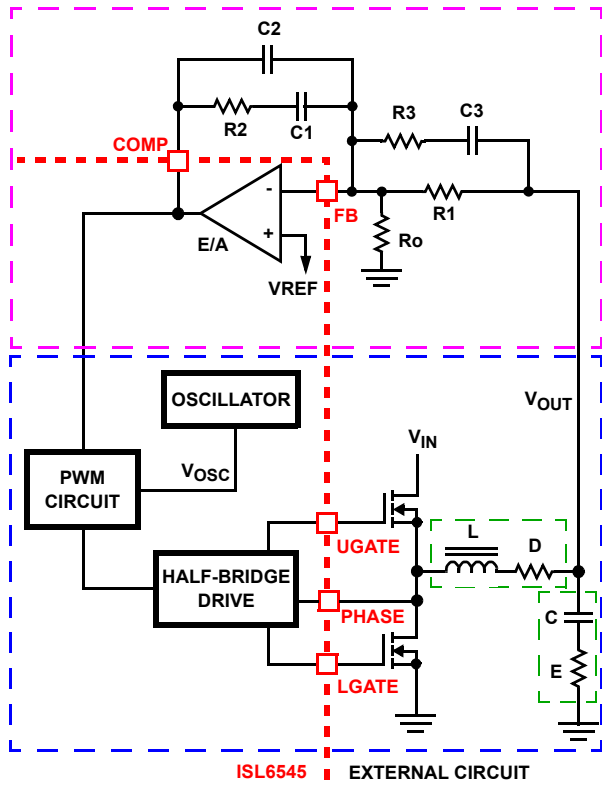

FIGURE 9. VOLTAGE-MODE BUCK CONVERTER COMPENSATION DESIGN
This section highlights the design consideration for a voltage-mode controller requiring external compensation. To address a broad range of applications, a type-3 feedback network is recommended, as shown in the top part of Figure 9.
Figure 9 also highlights the voltage-mode control loop for a synchronous-rectified buck converter, applicable to the ISL6545 circuit. The output voltage (V_{OUT}) is regulated to the reference voltage, V_{REF} . The error amplifier output (COMP pin voltage) is compared with the oscillator (OSC) modified sawtooth wave to provide a pulse-width modulated wave with an amplitude of V_{IN} at the PHASE node. The PWM wave is smoothed by the output filter (L and C). The output filter capacitor bank's equivalent series resistance is represented by the series resistor E.
The compensation network consists of the error amplifier (internal to the ISL6545) and the external R1-R3, C1-C3 components. The goal of the compensation network is to provide a closed loop transfer function with high 0dB crossing frequency (F_0 ; typically 0.1 to 0.3 of F_{SW}) and adequate phase margin (better than 45°). Phase margin is the difference between the closed loop phase at F_{0dB} and 180°. The equations that follow relate the compensation network's poles, zeros and gain to the components (R1, R2, R3, C1, C2, and C3) in Figure 9. Use the following guidelines for locating the poles and zeros of the compensation network:
1. Select a value for R1 (1kΩ to 5kΩ, typically). Calculate value for R2 for desired converter bandwidth (F_0). If setting the output voltage via an offset resistor connected to the FB pin, R_o in Figure 9, the design procedure can be followed as presented.